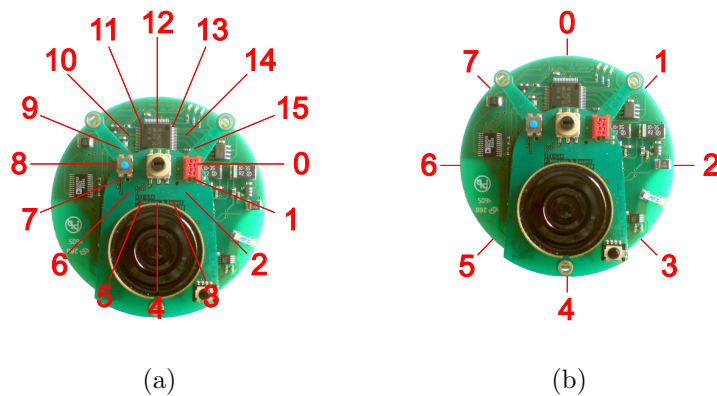

Figure 1: (a) The 16 selector positions. (b) Numbering of the LEDs on the LED ring.
- **Selector:** This is the small black stick on the top of the robot. You can turn it to one of 16 positions, as shown in Figure 1 (a).
- **LED ring:** The 8 red LEDs around the robot can be independently switched on and off. Figure 1 (b) shows the numbering of the LEDs.